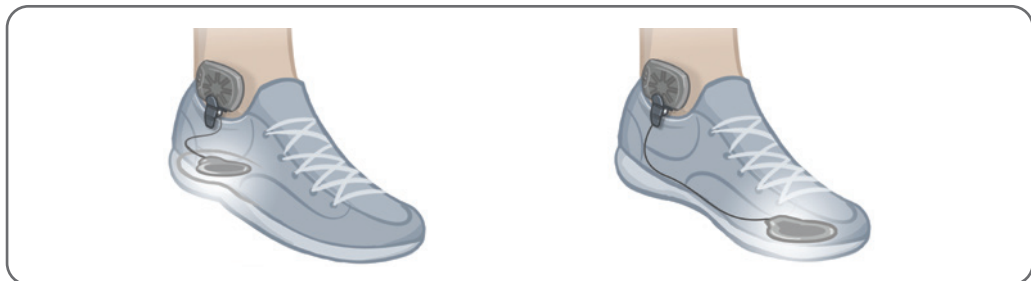

Figure 6-9: Final Position of the Foot Sensor Attached to the Shoe
4. Clamp the Foot Sensor transmitter on to the inner rim of the shoe. Face the starburst logo on the transmitter away from the ankle. See Figure 6-9.
5. Cover the pressure sensor with the insole. Tuck any excess wire under the insole. See Figure 6-9.